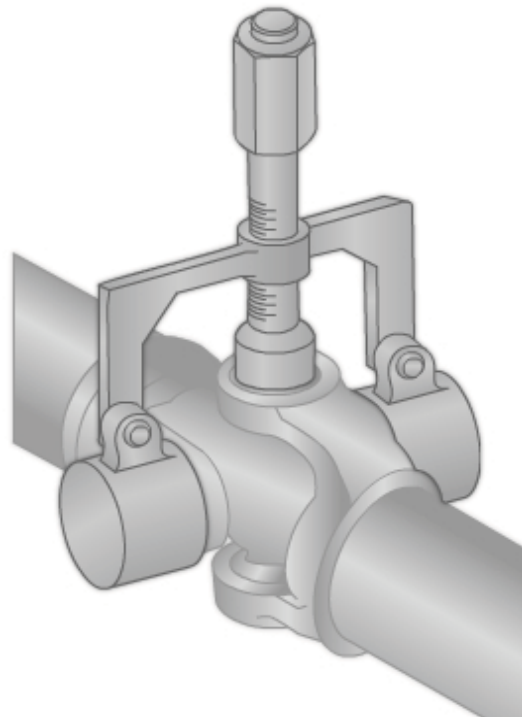

Figure 8-53 - Universal joint puller.
4. A safer method of removing the bearing cup assembly is with the use of a two-jaw puller designed for separating U-joints. Bolt the puller to the bearing assembly and apply torque to separate each bearing cap (*Figure 8-53*).